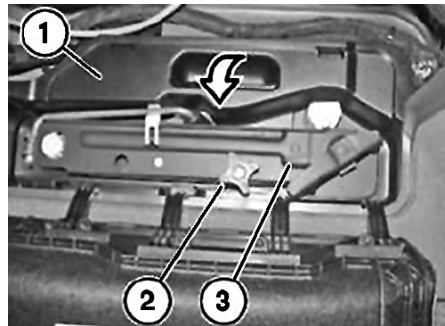

Fig. 4 Vehicle jack & battery cover removal
5. Remove vehicle jack screw (2) and vehicle jack (3), **Fig. 4.**
6. Fold down battery cover (1) in direction of arrow as illustrated in **Fig. 4.**